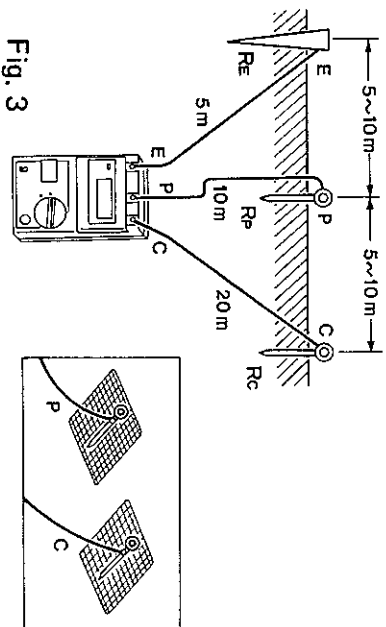

Fig. 3
1.4 When the auxiliary ground rods have been established, connect them to E, P, and C terminals with attached cords as in Fig. 3.